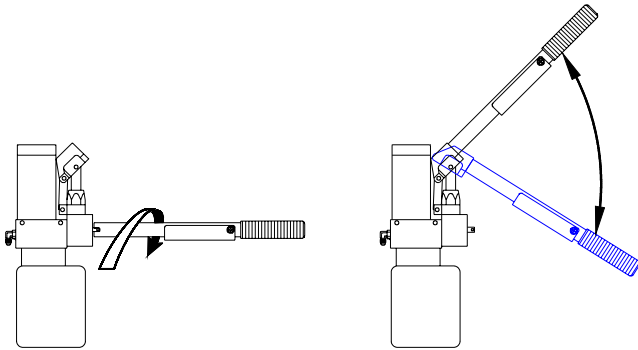

FIGURE 2-11: CLOCKWISE CLOSES RELEASE VALVE
- 1) Refer to **Figure 2-11**. Engage pump release valve with pump handle. Note that the notches in handle must engage the pin on the stem of the release valve. Turn valve lightly clockwise to verify that valve is closed (valve should have been closed previously). Remove handle.
- 3) Refer back to **Figure 2-11**. Insert handle into backup pump socket, then pump handle to raise platform to floor height.